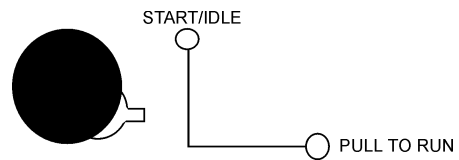

Figure 24. Engine Throttle Lever (high)
9. Pull the engine throttle and turn to the right until the metal stop rests against the control panel (Figure 24).